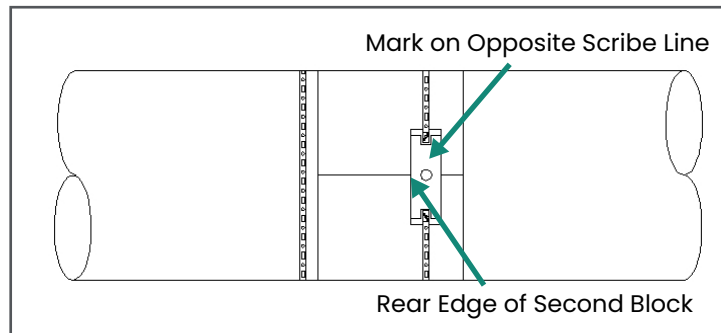

Figure 29: Lining up the Rear Edge of the Bracket with the 180° Scribe Line
4. Line up the other edge of the CFG-PI holder bracket with the scribe line and tighten the chain or strap, as shown in *Figure 29*.